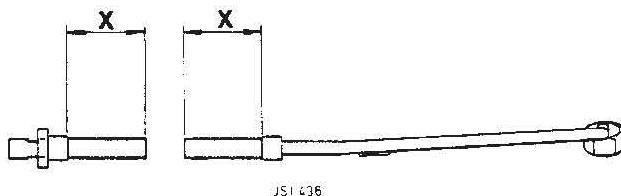

FIG 2
2. Obtain fuel hose assembly Part No. EAC 8088 from parts stock and cut the hose into two equal lengths of 60 mm (2.36 in) (Fig 2). Blow through the hose assembly to ensure all cutting debris is clear.